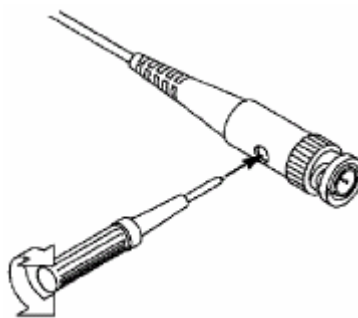

Fig. 6 Adjust Probe
2. Check the displayed wave forms and regulate the probe till a correct compensation is achieved (see Fig. 5 and Fig. 6).